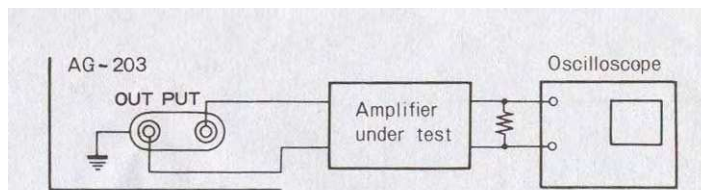

Fig. 7
1. Connect AG-203, an amplifier to be tested and an oscilloscope as shown in Fig. 7.
2. Press WAVE FORM (5) to the “” position to obtain square waves of appropriate frequency and amplitude.